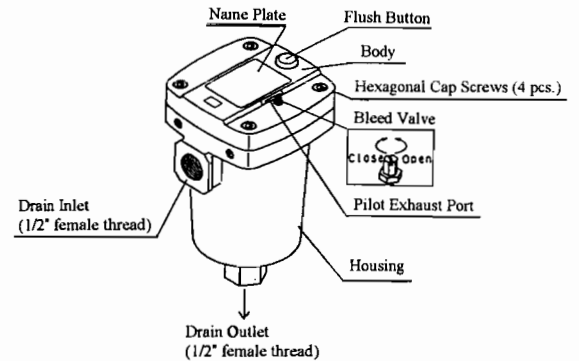

Figure 1 : Parts Description
- * How to Depressurized, refer to Figure 1